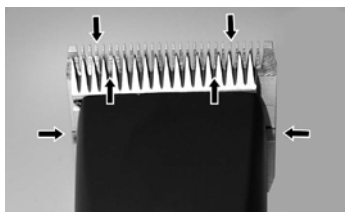

Fig. 21
To ensure a good haircutting result and to increase the service life of the hair clipper and the clipper head, apply a thin coat of oil between the top and bottom blade (Fig. 21).
- ▶ Lubricate the blades sufficiently when clipping (at least every 15 minutes) to prevent them from becoming dry (Fig. 21).